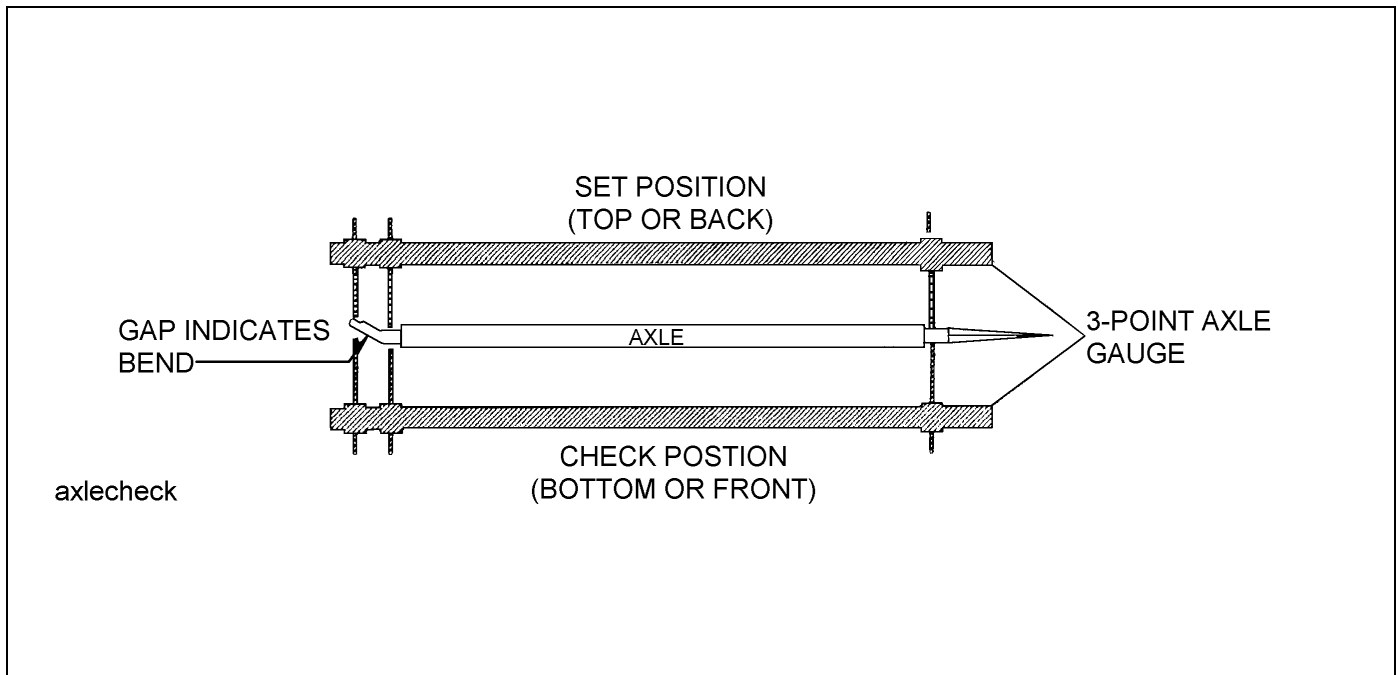

Figure 4-8: Checking Axle for Bend
2. Place a 3-point axle gauge against the front side of the axle, and adjust each axle gauge point to the axle. (Double point end against the inner and outer wheel bearing surfaces of the spindle being checked and the other point on the inner bearing surface on the other spindle.)(See Figure 4-8.)
3. Move the axle gauge and place against the back side of the axle. If either of the points of double point end fails to touch the axle surface, a bent spindle is evident. A point gap of .015" or more is considered excessive tire “toe” and the axle must be replaced (See Figure 4-8.)